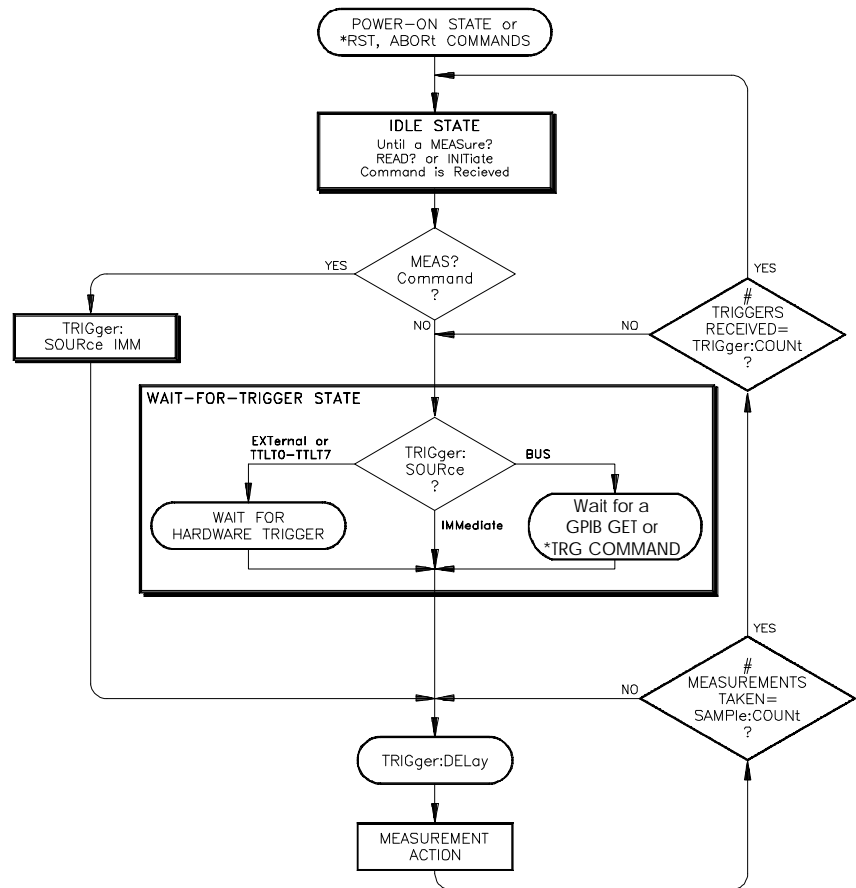

Figure 2-1. Multimeter Triggering Flow Chart
Figure 2-1 illustrates the multimeter's trigger system and the programming commands that control the trigger system. The multimeter operates in one of two trigger states. When you are configuring the multimeter for measurements, the multimeter must be in the *idle* state. After configuring the multimeter, the multimeter must be placed in the *wait-for-trigger* state.
3. You must make sure that the multimeter is ready to accept a trigger from the specified trigger source (this is called the *wait-for-trigger* state) by issuing a READ? or INIT command. A MEASure command always uses an immediate trigger (see the flow chart in Figure 2-1 on page 35).
- See the triggering process diagram in Figure 2-1 on page 35.
If you do not specify a trigger delay, the multimeter automatically determines a delay time (default delay) based on the present measurement function, range, resolution, integration time and AC filter bandwidth setting. The delay time is actually the settling time required before measurements to ensure measurement accuracy. The default delay time is automatically updated whenever you change the function or range. Once you specify a delay time value, however, the value does not change until you specify another value, reset the multimeter or do a CONF or MEAS command. The table below shows the default trigger delay times for all functions. This delay will occur before *each* measurement (see the trigger system diagram in Figure 2-1 on page 35).